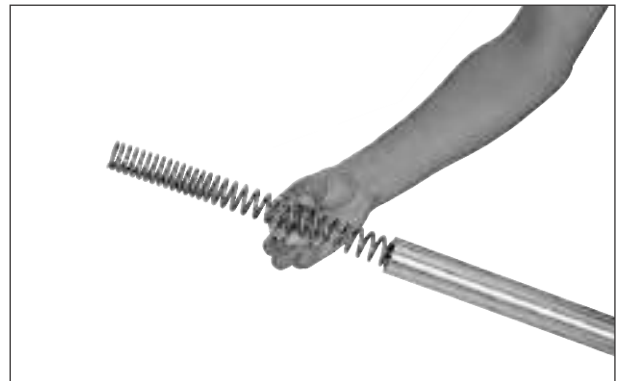

Fig. 6.56
- Install spring front fork with its smaller pitch end facing upward. (Fig. 6.56)